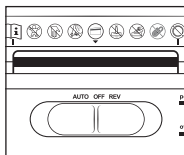

Fig. 2
- Insert the credit card between the two **||** markings and centred on the arrow **▼** into the cutting opening **14** (see fig. 2). You can only shred one credit card at a time. Always insert cards into the cutting opening **14** with the wide side first. Otherwise, the magnetic strip will not be destroyed.